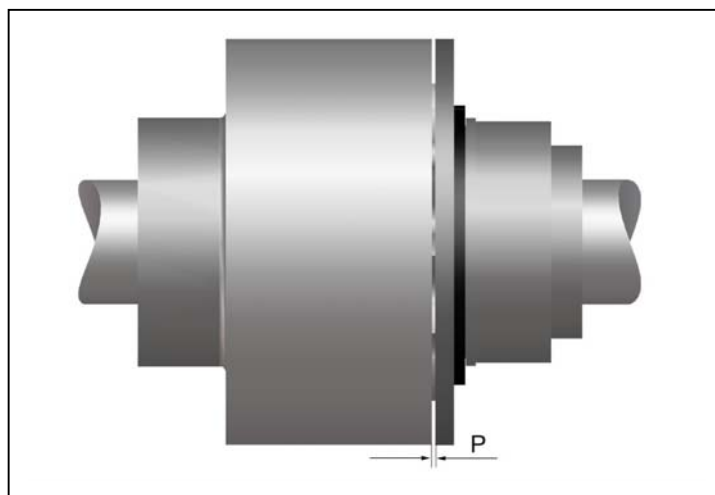

Fig. 8
- Measure the axial gap 'p' as shown in Fig. 8.